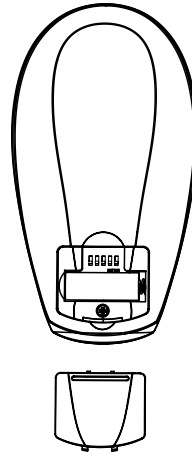

Figure 9d
1. Slide the cover off the back of the remote as shown in Figure 9d, pressing in and sliding the cover down to release.
2. Install the included 12 volt alkaline battery (Type 23A, MN-21 or equivalent) inside the remote, matching polarity on the Battery Compartment as indicated by the + and - symbols in the Battery Compartment. See Figure 9d. Replace the cover.
2. Slide the cover off the back of the remote and remove the battery. The battery must be removed when changing dip switch settings. Refer to BATTERY INSTALLATION and Figure 9d.